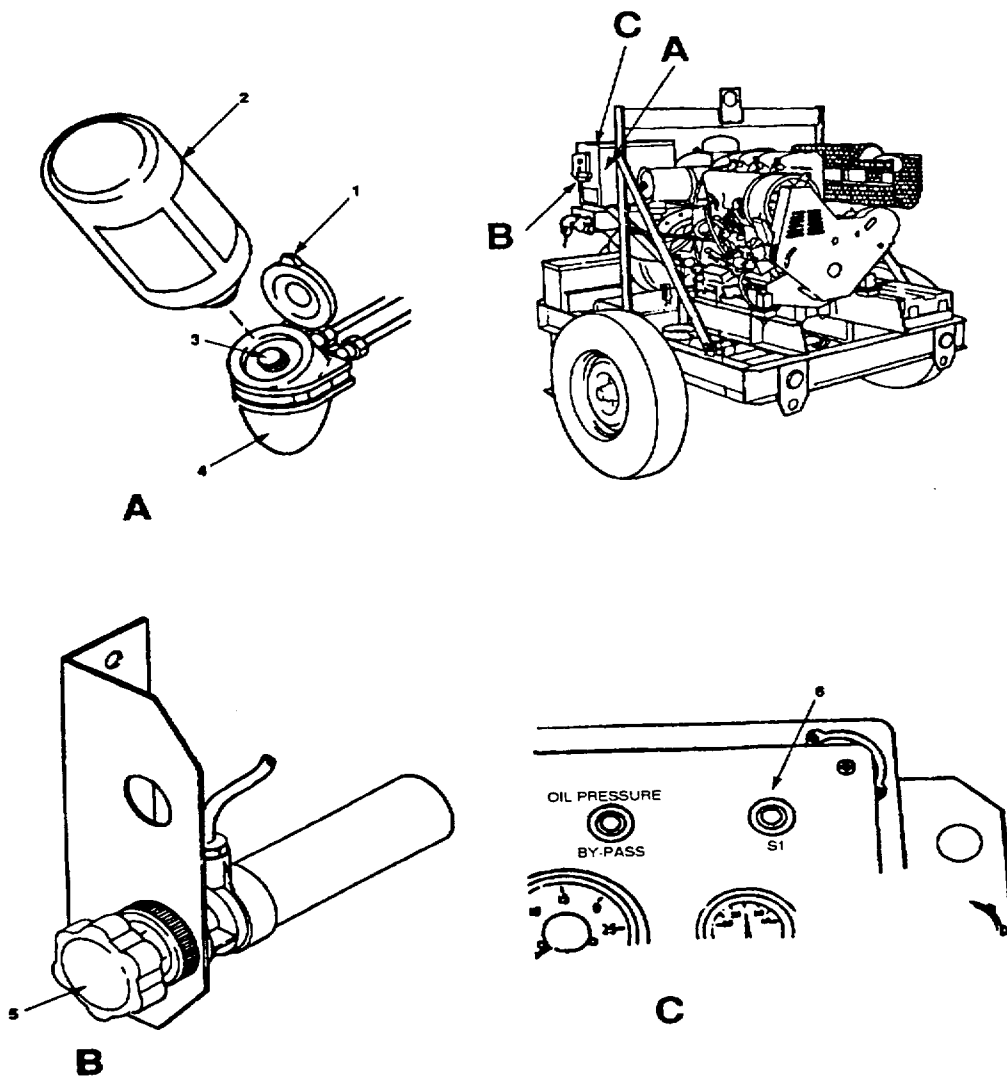

Figure 2-11. Cold Start Reservoir and Pump(All Except Model 350 PAFN).
- a. Open cold start reservoir cover (1, figure 2-11) and force servicing can (2) into nipple (3) on reservoir (4) so fluid flows from can into reservoir.
- (1) Secure tool box cover latch.
- (2) Secure control panel cover.
- (3) Ensure that battery cover retaining bar is secure.
- (4) Remove fuel tank filler cap from tank and turn cap over.
- (5) Rotate vent valve selector to CLOSED position as shown in Figure 2-11.
- (6) Install cap and secure.
- (1) Remove fuel tank filler cap and turn cap over.
- (2) Rotate vent valve selector to OPEN position as shown in Figure 2-11.
- (3) Install cap and secure.